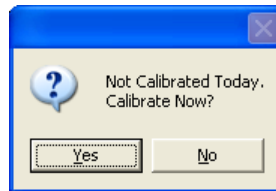
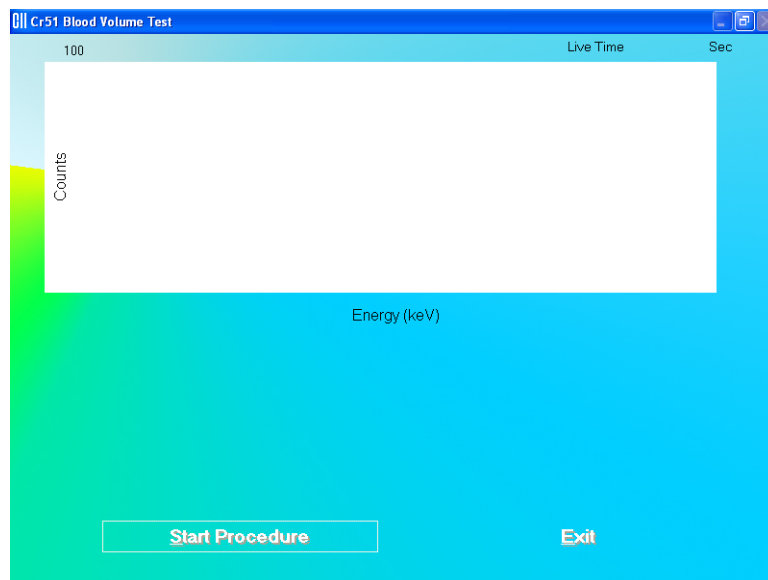

Figure 10-54
Figure 10-55
- To begin the measurements, click the **Count Selected Patient** button or press *Alt+C*. The screen appears as shown in Figure 10-54.
**Note:** If calibration has not been performed, you will be prompted with the screen as shown in Figure 10-54. After the calibration is complete, the program will return to the Schilling Test measurement screen shown in Figure 10-55.
To begin counting, verify that there are no radioactive sources nearby and click the  button. To abort the measurement, click the  button and the screen will return to that shown in Figure 10-55. To exit to main Cr51 Blood Volume test screen, click the  button or press *Alt+E*. To begin the test again, click the  button or press *Alt+S*.